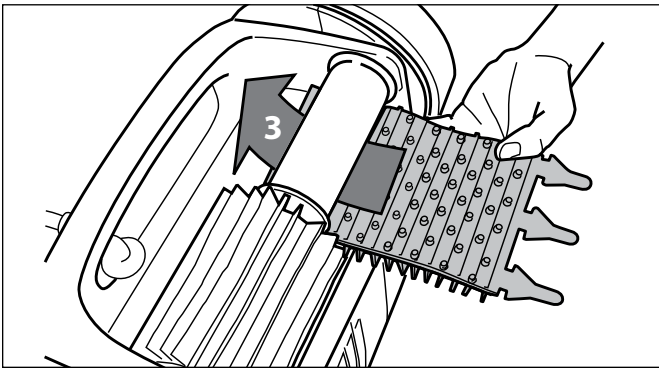

Figure 32. Install the New Brush
3. To install a new brush, position the new brush on the roller with the spikes facing downwards (Figure 32).